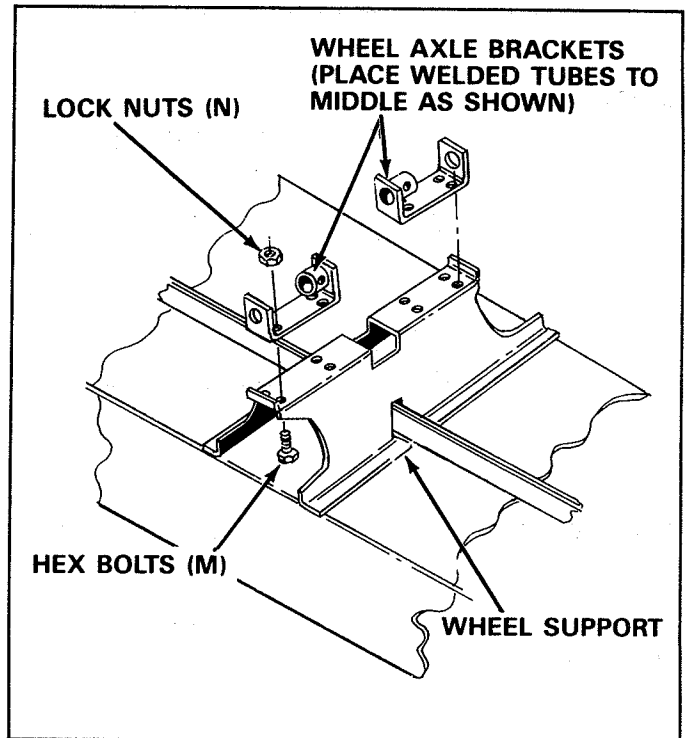

FIGURE 10
15. Tighten all bolts assembled in step 4 through 14, lower cart assembly to rest on top flanges, with axle support up. See figures 10 and 13.
16. Assemble wheel axle brackets (2) to wheel support, using 5/16" x 3/4" hex bolts (M) and lock nuts (N). NOTE: Place welded tubes to middle, as shown in figure 10.